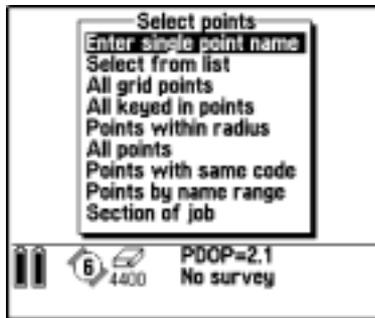

Figure 17.4 Select points screen showing selection methods
2. Press to transfer points in the Trimble Survey Controller software database to the *Stakeout/Points* list. The *Select points* screen appears, as shown in Figure 17.4.